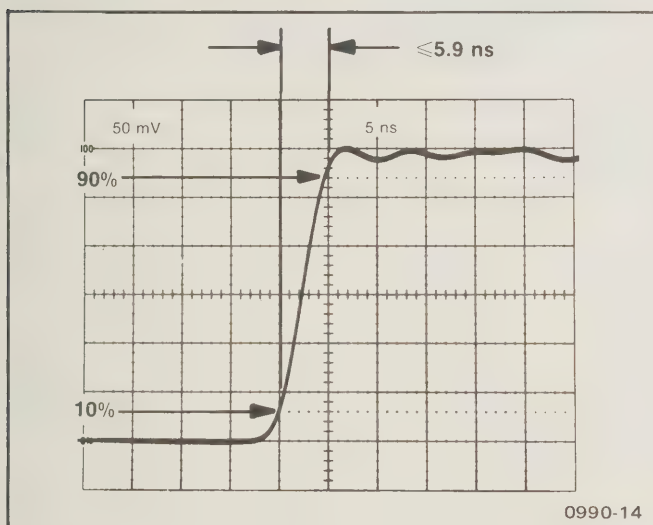

Fig. 5-6. Risetime measurement, showing response of Type 134/P6022.
g. CHECK—For the P6021, risetime of less than 9.6 ns (using an oscilloscope bandwidth of at least 100 MHz); for the P6022, risetime of less than 5.9 ns (using an oscilloscope bandwidth of at least 150 MHz). Risetime is measured from 10% (0.6 Div) above the pulse baseline to 90% (5.4 Div) above the pulse baseline. A risetime graticule is recommended for this measurement. (See Fig. 5-6.)